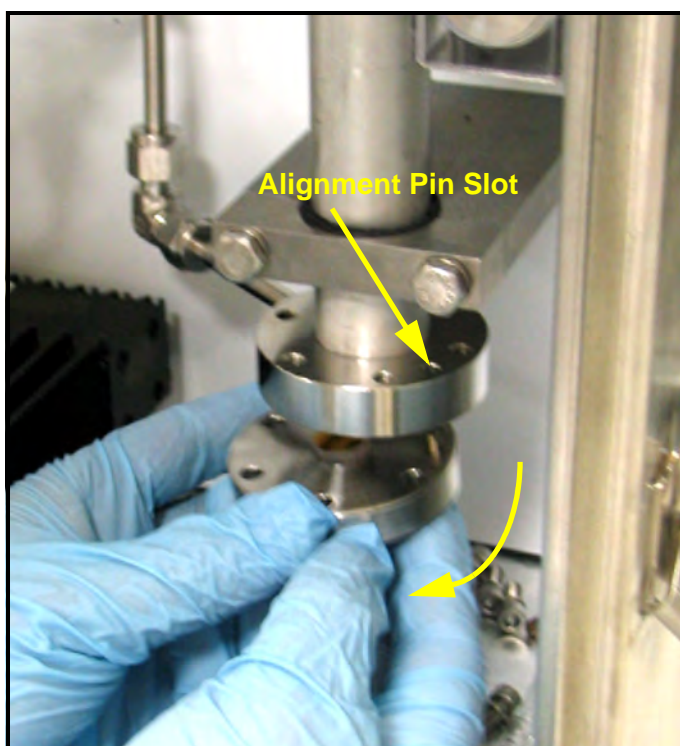

Figure 84: Reinstalling the Mirror Assembly
14. As you line up the mirror to the measurement cell, note the “key” for properly connecting the two pieces. The mirror will align for mounting in only one position. Rotate the mirror assembly to line up the alignment pin with the alignment pin slot (see *Figure 84* below).